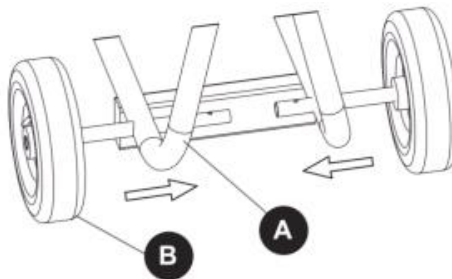

Fig. 1
1. Attach the wheels (B) to the fan body (A) (Fig. 1).